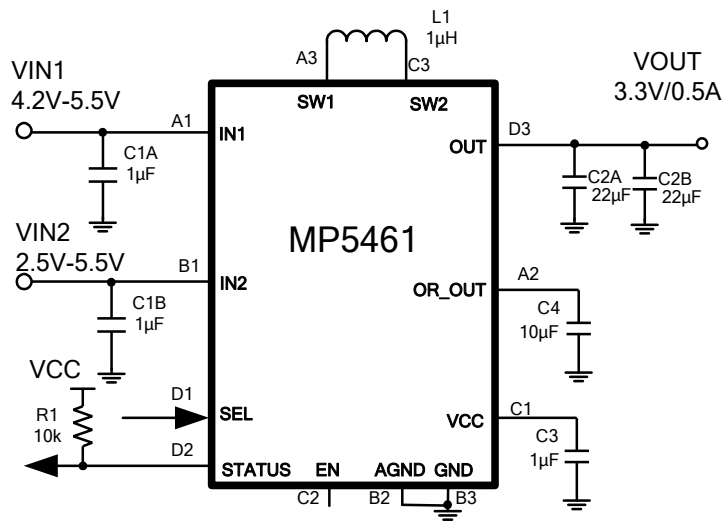

Figure 4: Typical application circuit with fixed 3.3V output voltage
(8) The recommended layout is based on the typical application circuit on the next page (see Figure 4).